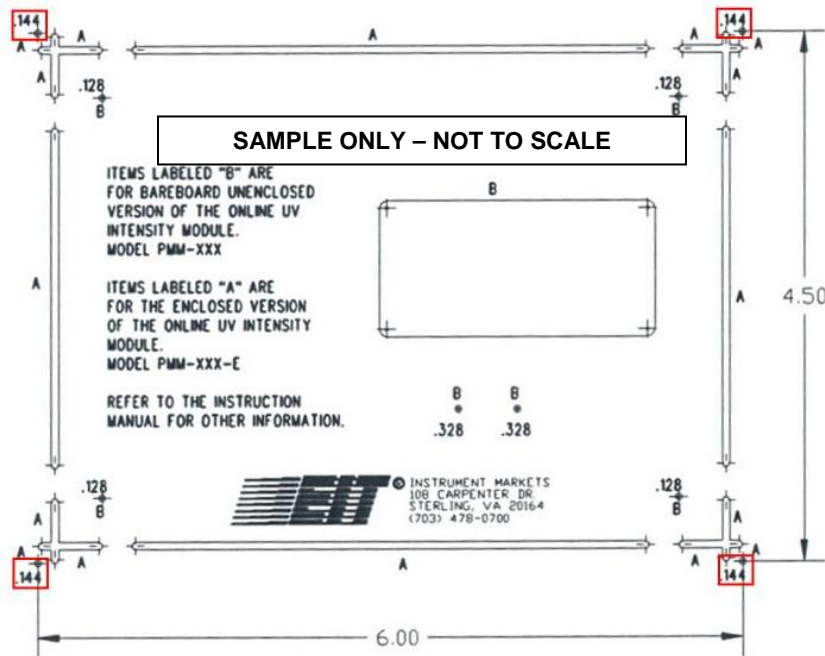

Figure 31: Enclosed Module Drill Holes for L-Bracket
To use the brackets, two 0.144" diameter screw holes must be drilled into the control panel. EIT provides a drill template (part number 92332A) in the accessory kit. Figure 31 provides the required drill locations and dimensions.
- The drill template (part number 92332A) provides cut lines and drill holes marked “A” and “B”. USE ONLY THE DRILL HOLES MARKED “A”. Figure 31 marks the drill holes in red.